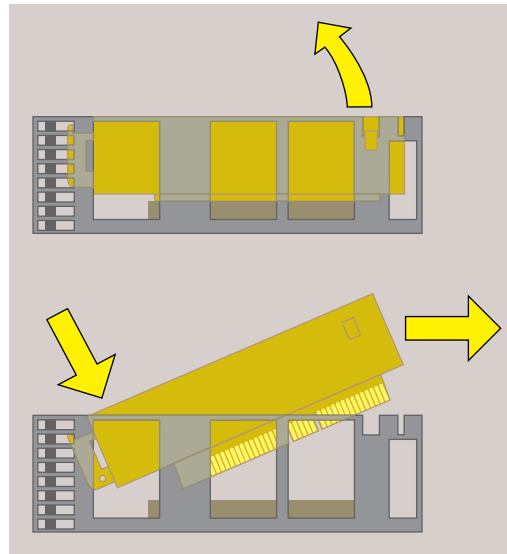

Figure 2-14 Removing the PCI Tray
3. Push down slightly on the rear of the *PCI* tray and remove it from the system module (Figure 2-14).